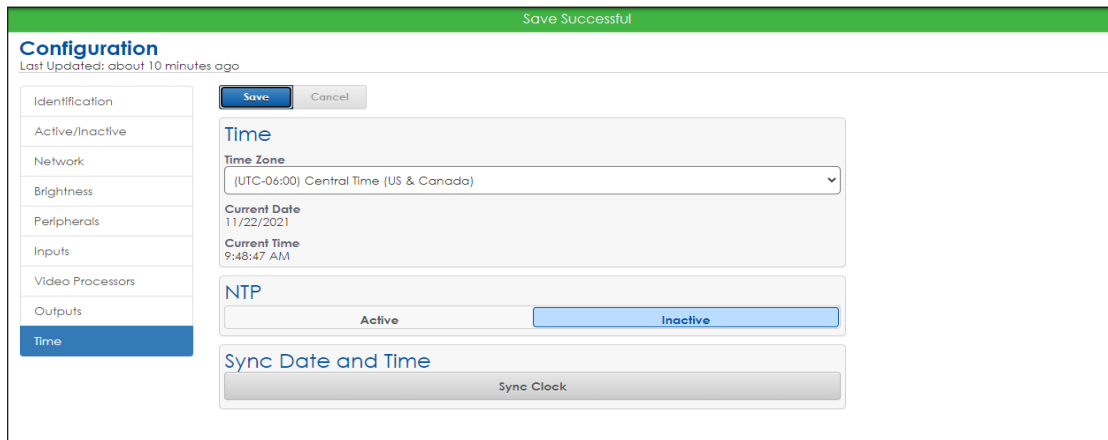

Figure 46: Sync Date and Time
1. Click **Inactive** then click **Save**. The **Sync Clock** option appears. Refer to **Figure 46**.